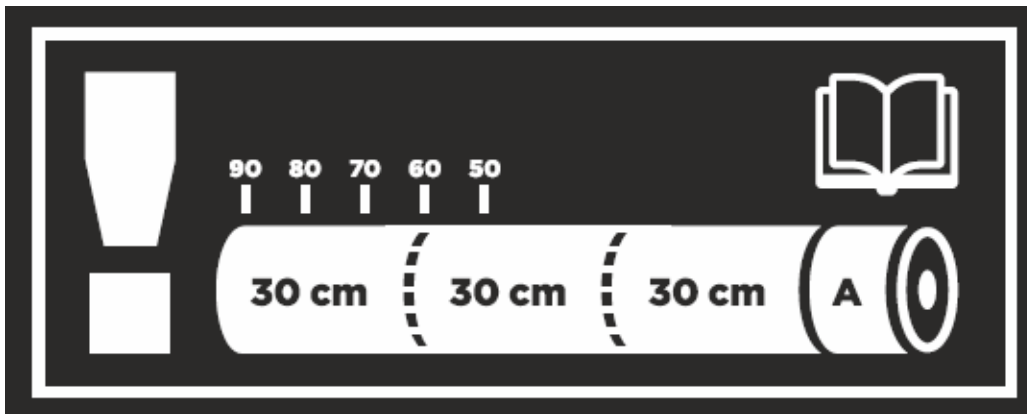

Figure 20
- Use the scale at the edge of the in-feed deck as an aid, Fig. 20.